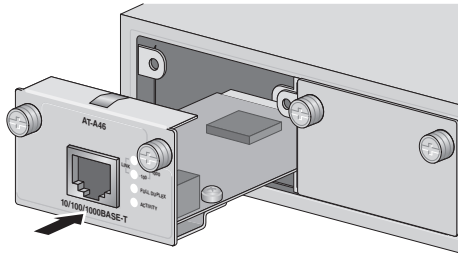

Figure 15. Installing a Module
6. Carefully slide the module into the slot until the module faceplate makes contact with the switch, as shown in Figure 15.